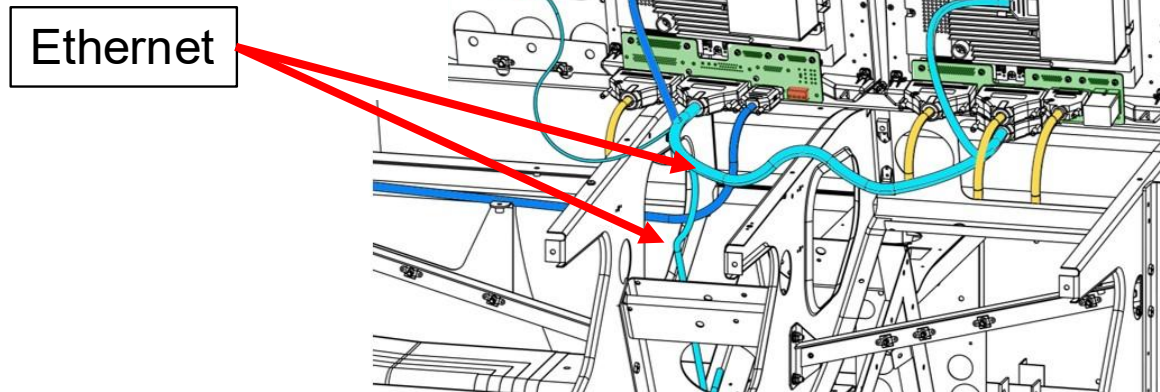

Figure 4-2: Ethernet Routing
The figure below, Figure 4-2: Ethernet Routing, illustrates the routing of the Ethernet interface between the PFD/MFD and IFD# (1)(2).